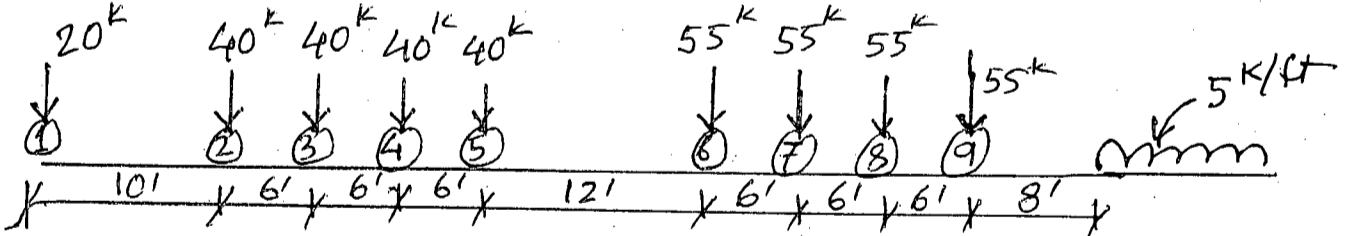
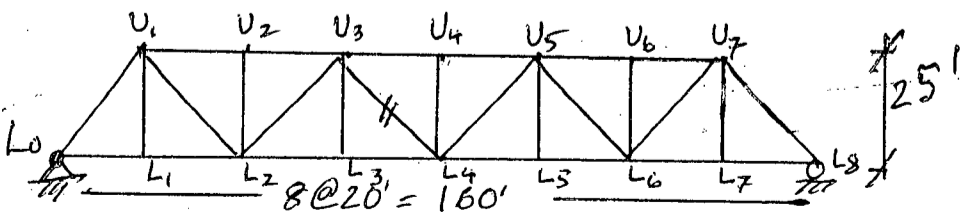

Fig. 11
Fig. 12
12. Compute maximum shear at quarter point of a simply supported beam of 80 ft due to the wheel load shown in Fig. 11. (28)
13. Find maximum moment at One-third point of a simply supported beam of 90 ft for the load shown in Fig. 11. (28)
14. Determine maximum compression for member "U3L4" of the truss shown in Fig. 12. Assume the loads given in Fig. 11. (28)